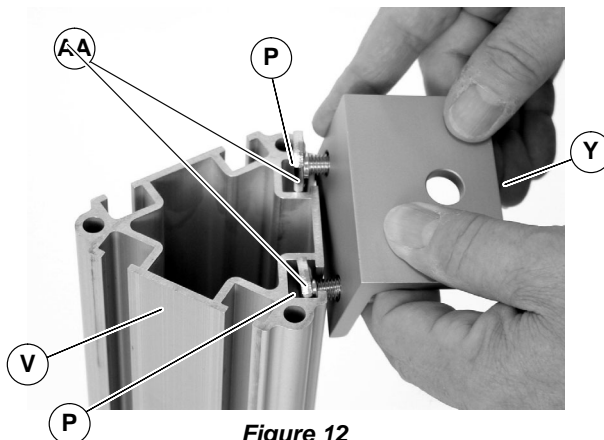

Figure 12
4. Align nuts (AA of Figure 12) with t-slots (P) on one side of trileg post (V). Slide the foot bracket (Y) onto the post.